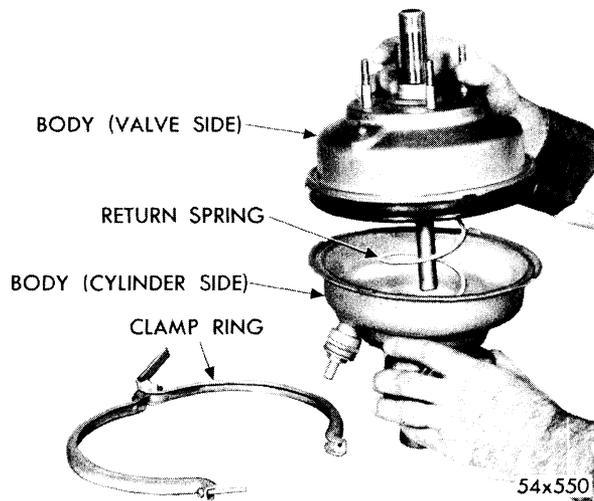

Fig. 73—Removing Power Piston and Guide
- (5) Remove body assembly (valve side) from body assembly (cylinder side) by lifting straight up, as shown in Figure 73. This is to prevent damaging the power piston sleeve and bearing.
- (6) Remove return spring.
- (7) Remove body and cylinder assembly from vise, invert, and place body assembly (cyl-